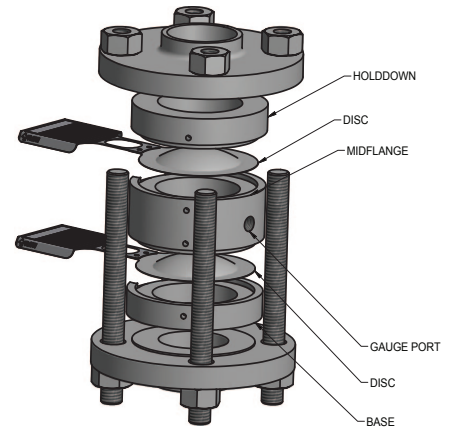
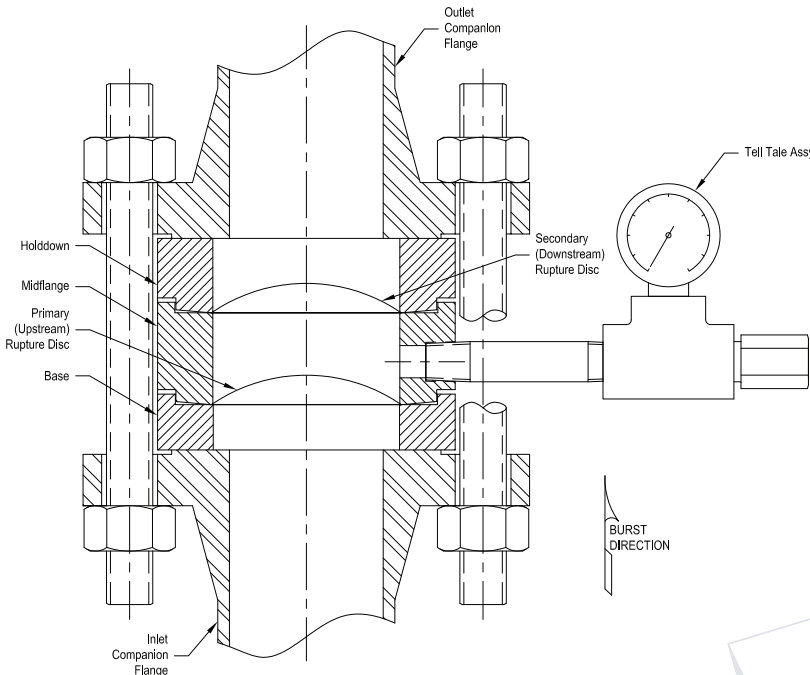

Figure 1: Exploded View of Double Disc Assembly GI
Figure 2: Double Disc GI Installed
The complete double disc (DD) holder assembly consists of two rupture discs installed in a permanent holder made of three separate components—the base, midflange and holddown (see figure 1). The GI configuration allows for ease of installation and maintenance, with preassembly of the unit on a workbench before simple insertion between companion flanges (see figure 2).